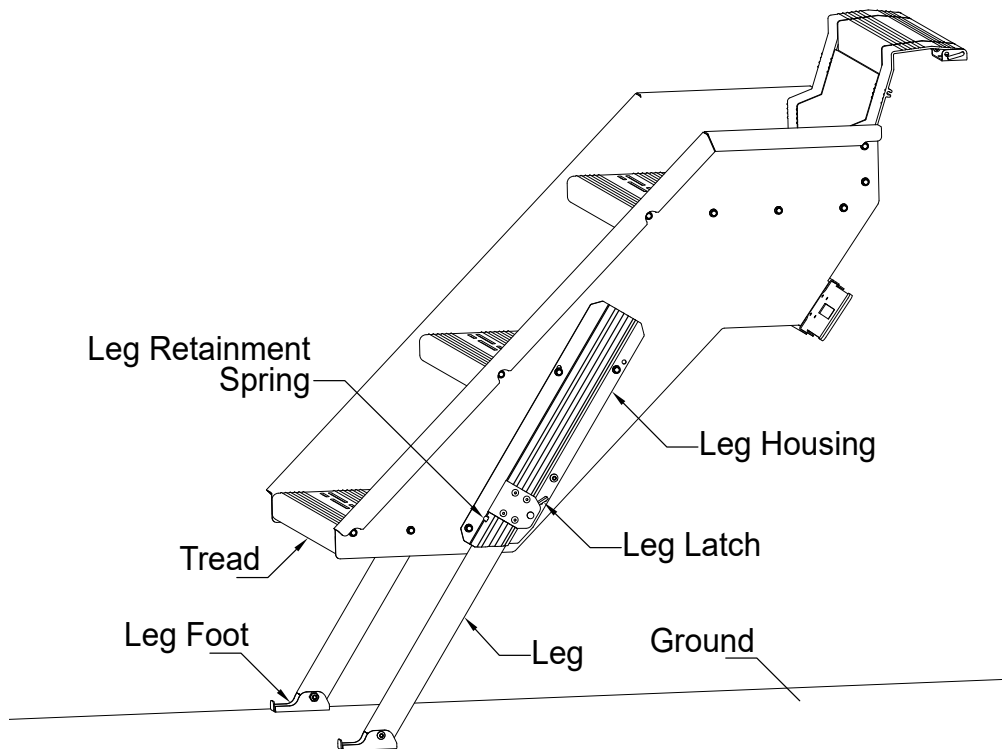

Figure 4
- The threshold cover is fixed to the floor mounting brackets in the downward position. This plate may be lifted or removed for cleaning. Pivot the staircase into the retracted/up position and ensure latch is properly engaged onto door flange. Use a T25 torx driver to remove the two (2) screws securing the threshold cover to the floor mounting brackets. Leave the hinge pins in place. The threshold cover may now be pivoted up to access the underside. After cleaning, replace the threshold cover and reinstall the two (2) screws. See **Figure 4**.
1. To remove, open entry door(s) and pull both hinge pins outward from hinge plates as shown in **Figure 4**.